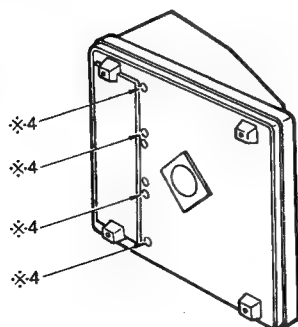

Fig. 41
- (3) Place the unit on its side as illustrated Fig. 41. And loosen the four screws designated "※4" two or three turns. (Do not remove these screws.)
Place the unit on its side, and tighten the four "※4" screws. [As in Fig. 41]